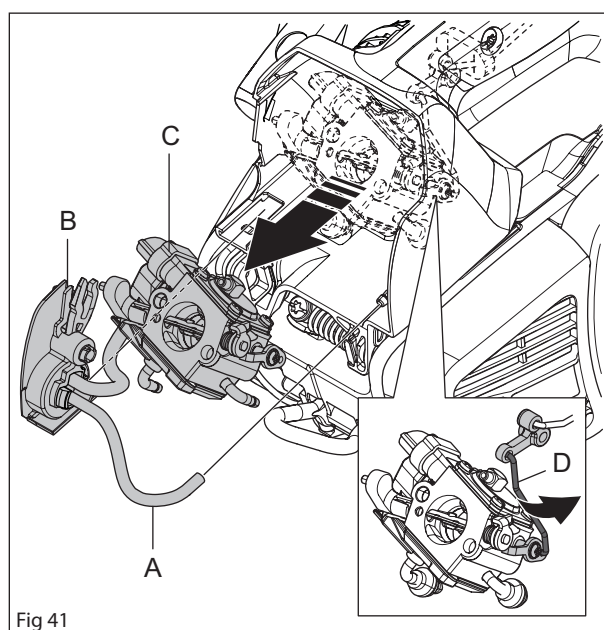

Fig 41
Loosen suction hose (A). Pull out the purge (B). To remove the carburetor (C), remove the carburetor from the chassis and remove the link rod (D). See Figure 41.